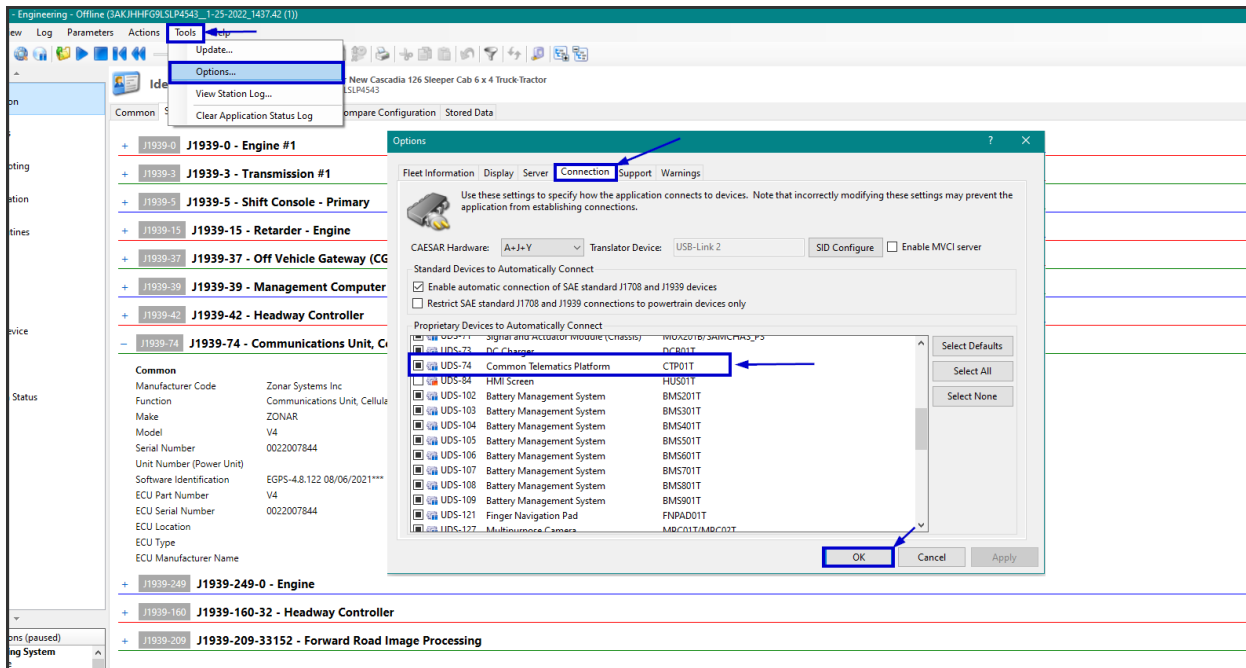

Fig. 5, Validating/Enabling CTP Automatically Connects
5. Once the third-party telematics is disabled and is no longer displaying in the 'Standards' tab, connection to the CTP should be possible. To connect to the CTP, make sure the CTP is selected for 'automatically connect.' See Fig 5.